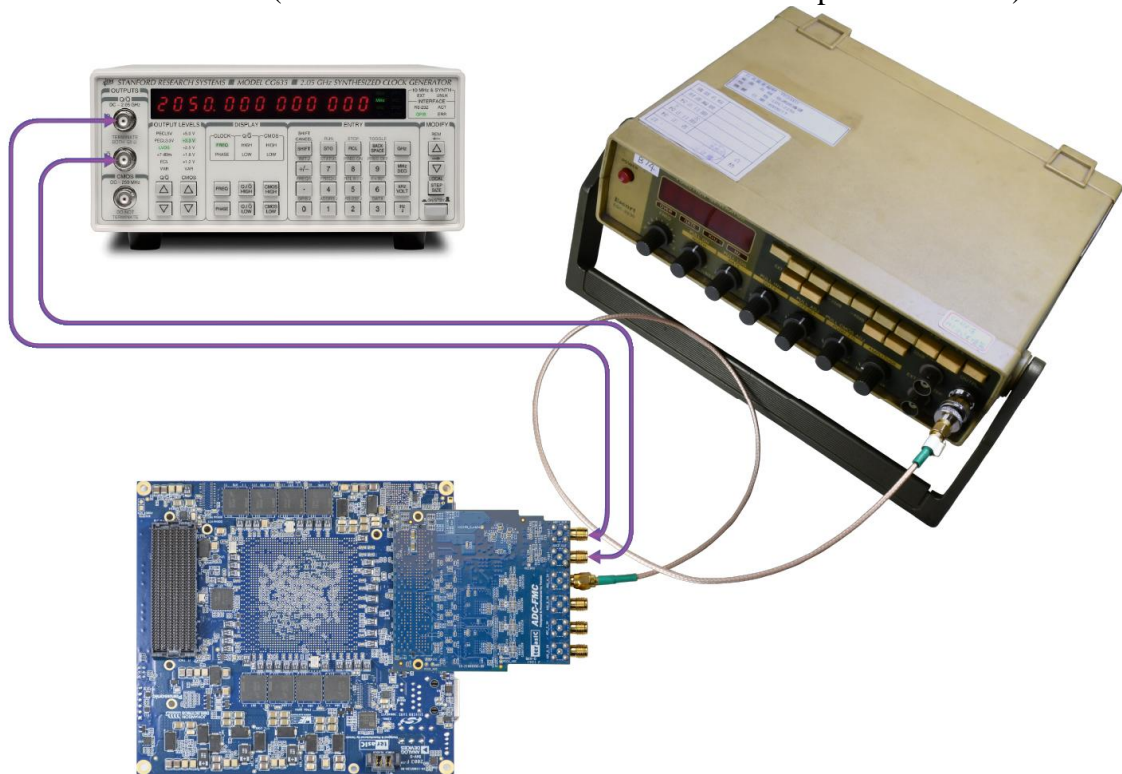

Figure 4-12 Hardware setup of ADC-FMC with Apollo S10 SoM
Figure 4-12 shows the demo the setup of ADC-FMC with Apollo S10 SoM. The ADC-FMC card should be installed on the FMC expansion header of the Apollo S10 SoM. Please adjust the VADJ of MFC connector to be 1.8V (See the user manual’s section 2.2 of the Apollo S10 SoM).
14. Make sure the ADC-FMC is installed on the Apollo S10 SoM as shown in **Figure 4-12**.